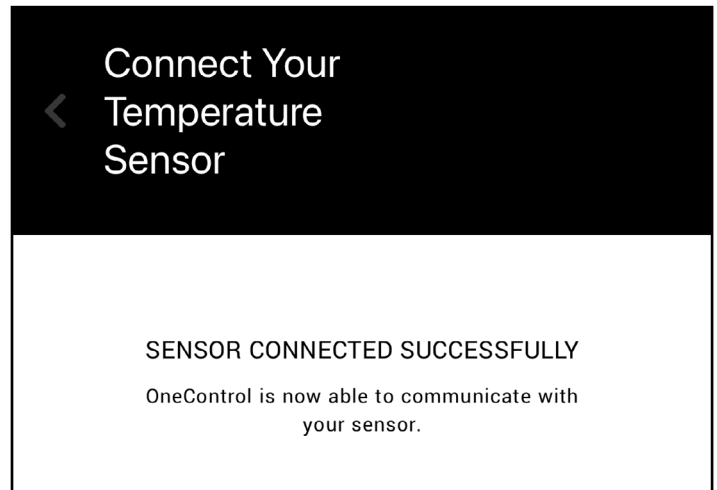

Fig.6
7. When pairing is complete, you will see a confirmation message (Fig.6).